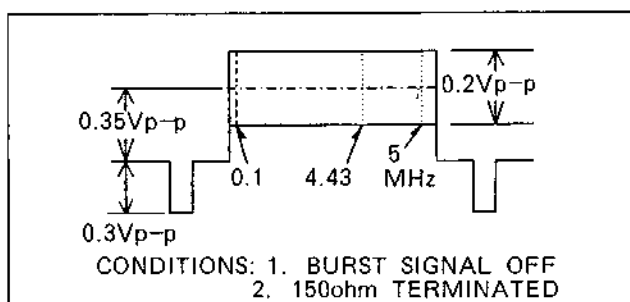

FIG. E18
- Adjust VR3101 so that the level at 5MHz becomes -8+-2dB (32~50%) comparing with the level at 0.1MHz as shown in FIG. E18.